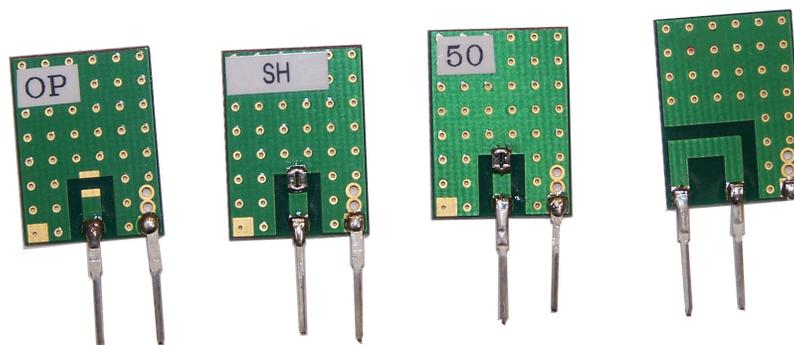
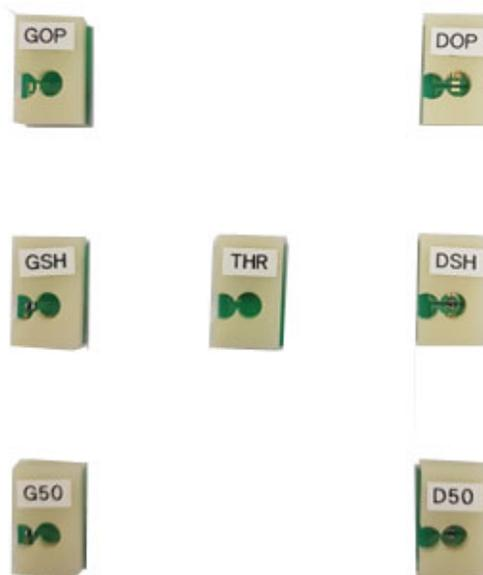

Figure 10 Calibration Standards for PD1000A TO-247 Test Fixture. Calibration Standards for the TO-220 fixture are similar but with narrower pin spacing.
Figure 11 Calibration Standards for PD1000A SMD Test Fixture.
- Mechanical Calibration Standards (shown in Figure 10 and Figure 11 below). These Calibration Standards are provided with your test fixture. and are shown in Figure 10 and Figure 11.